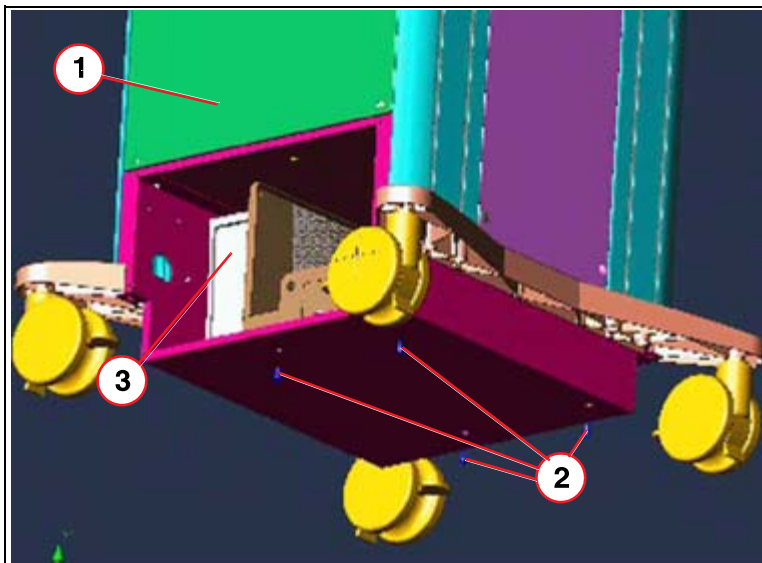

Fig. 29: Power supply
4. Unscrew the 4 screws from the back cover and remove the cover (1/Fig. 29 / p. 57)
5. Unscrew the 6 screws from the lower back cover and remove the cover (cover already removed in (Fig. 29 / p. 57)).
6. Unscrew the 4 Allen screws (2/Fig. 29 / p. 57) for the power supply component.